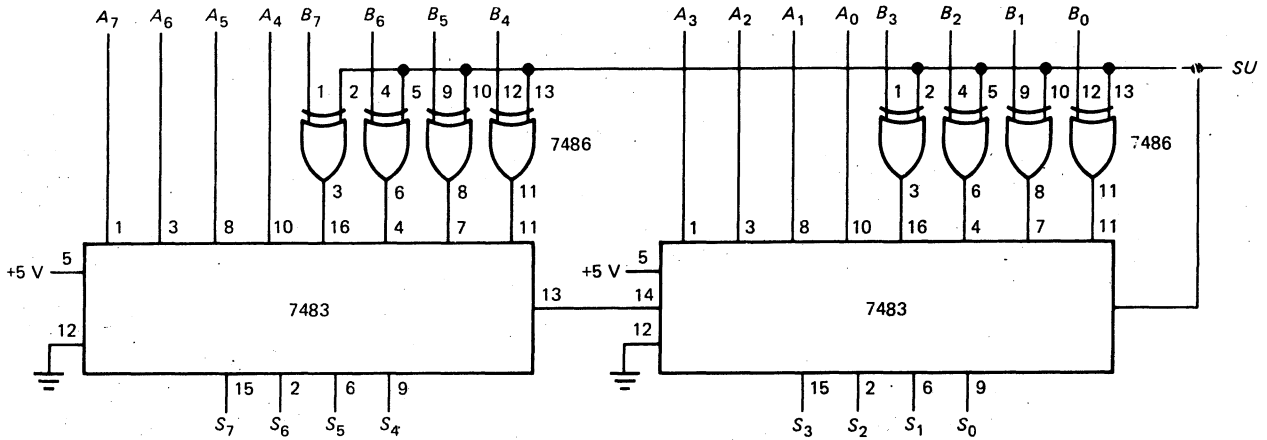

Fig. 6-9
- 6-11. Suppose the inputs to Fig. 6-9 are $A = 3CH$ and $B = 5FH$. What is the output for a low *SUB*? A high *SUB*? Express your final answers in hexadecimal form.
- 6-12. In Fig. 6-9 which of the following inputs cause an overflow when *SUB* is low?